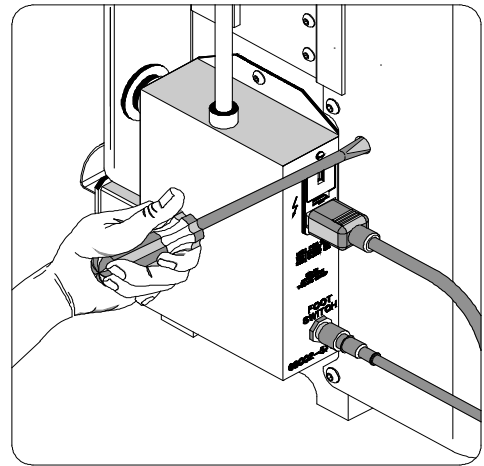

Figure 3-13 MANUAL CYCLE CLUTCH RELEASE
2. Release the clutch by inserting a screwdriver through the access hole to trip the locked actuator. See Figure 3-13.